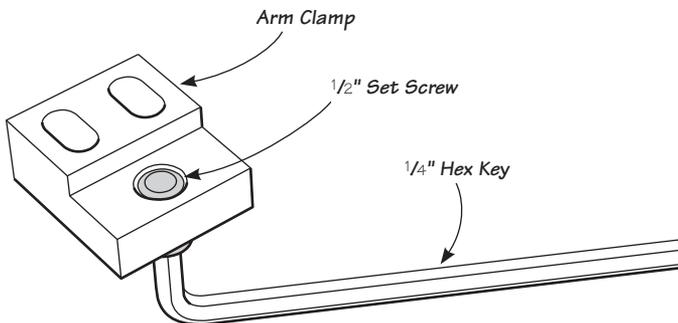

Figure 2: Installing set screws in arm clamp.
1. Use the included 1/4" hex key to install one 1/2" set screw in each arm clamp so that they are flush (**Figure 2**).